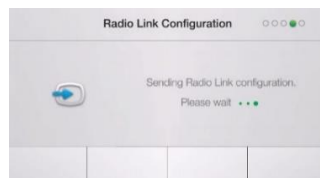

Figure 6-13: RTK Radio Link Step 4
- The Figure 6-13 displays while the radio is being configure